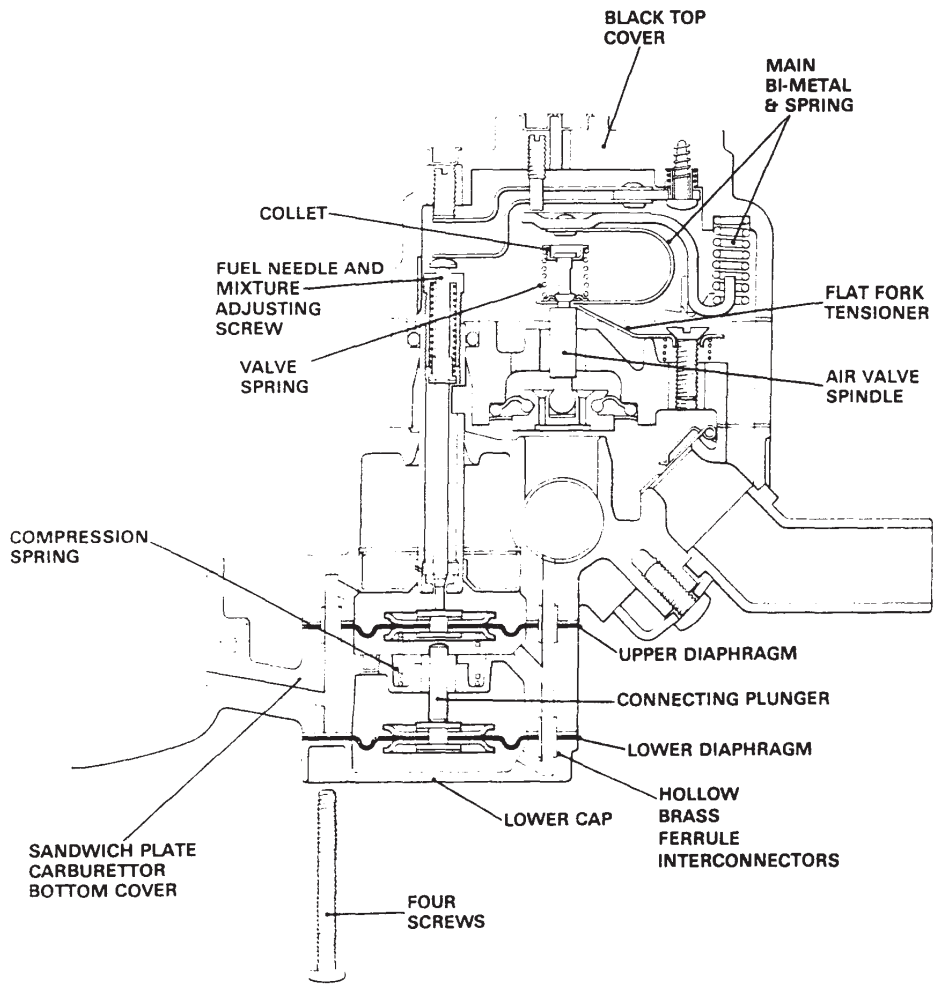

FIG 2 ASU - AMBASSADOR
3.2 With ASU on the bench: refer to Fig. 2
- (a) Refer to Fig. 2. Insert one sandwich fixing screw with washer through lower ASU cap. Fit one new diaphragm on the cap, large central copper head uppermost, and with the brass ferrule on the position shown in Fig. 1. Re-locate the assembly under the sandwich plate.